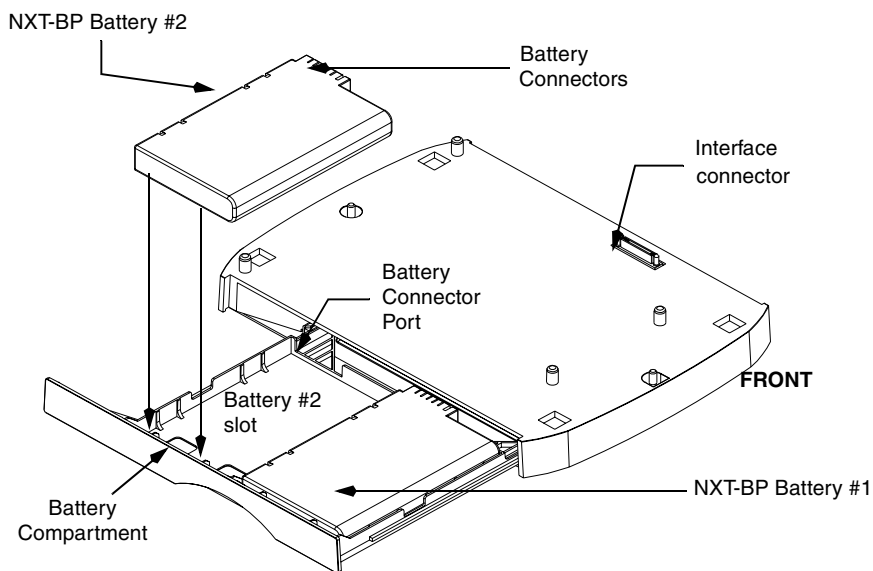

FIG. 29 Battery installation procedure
1. With the panel mounted on the battery base, open the battery compartment (FIG. 29) by pulling the handle outwards. This compartment houses two NXT-BP batteries.
3. Align the battery connectors with the corresponding battery connector port (located inside the battery compartment), as shown in FIG. 29.
2. Insert each battery into the battery compartment shown in FIG. 29.